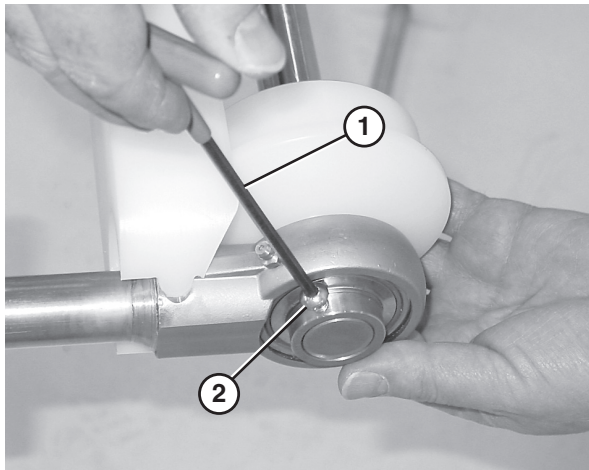

Figure 80
5. Use a hex wrench (**Figure 80, item 1**) to tighten the bearing shaft fasteners (**Figure 80, item 2**) to 54 in•lbs. Check after 24 hours of conveyor use.